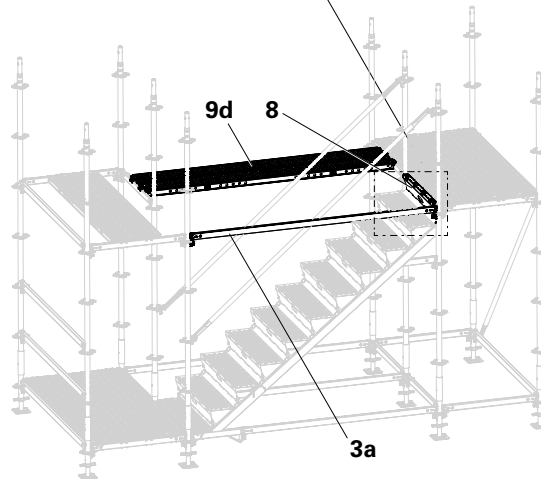

Fig. A2.08
7. Attach Horizontal Ledger UH 250 (3a) from the stairs, and secure with hammer blow. (Fig. A2.08)